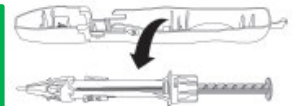

Fig.9: Step 4 - Remove from the case
4. Remove the injector from its case (Fig.9). Go immediately to Step 5 once removed.